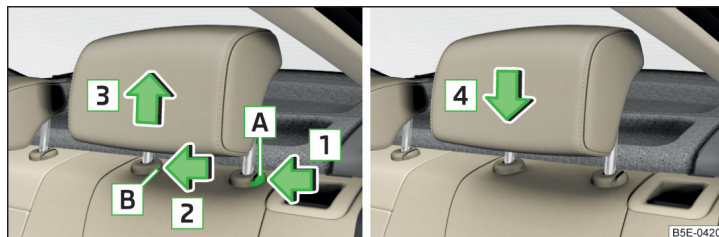

Fig. 70 Rear headrests: removing/installing
- » Press the locking button **A** in the direction of arrow **1** » Fig. 70, while at the same time using a flat screwdriver with a max. width of 5 mm to press the securing button in opening **B** in the direction of arrow **2**.